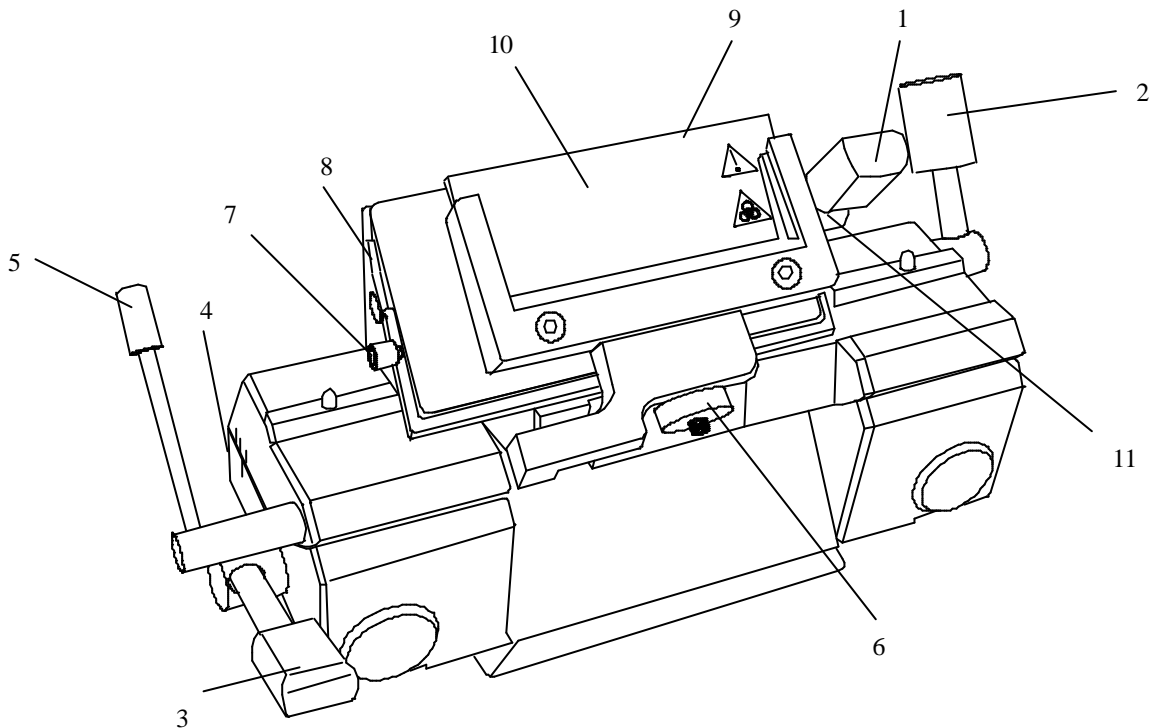

Fig. 24a
?? The blade is inserted into the slot (fig. 24a.9) behind the clamping plate.
When using high profile blades, first loosen the lever (fig. 24a.1) and remove the spacer strip (fig. 24a.8).
- ?? For this, push in the stop bolt (fig. 24a.11) and turn the clamping lever (fig. 24a.1) in a counter clockwise direction over the stop bolt.
- ?? Remove the clamping lever (fig. 24a.1) together with the eccentric bolt.
- ?? Fix the clamping plate with clamping lever (fig. 24a.1) again in the blade carrier in reverse order.
- ?? To insert the blade, now loosen the clamping lever (fig. 24a.1).
- ?? Insert the blade from the left side into the slot behind the clamping plate (fig. 24a.9) as far as possible.
- ?? To section the specimen, put the anti-roll plate (fig. 24a.10) against the blade via the turning lever (fig. 24a.5) in a counter-clockwise direction.
- ?? Tighten the clamping lever (fig. 24a.1). Thus fixing the blade in its position.
- ?? Open the clamping lever for the upper part of the carrier (fig. 24a.2) and move the blade together with the upper part to the left or right side.
- ?? Tighten the clamping levers (fig. 24a.2) to fix this position.
To avoid the danger of injury on the blade during adjustment of specimen, always position the knife guards (fig. 24a.7) over the blade edge.
?? The fine adjustment of the anti-roll plate is carried out via the knurled screw (fig. 24a.6).
- ?? Loosen the clamping lever (fig. 24a.3).
- ?? The clearance angle can be read on the scale (fig. 24a.4) on the left side on the base.
- ?? Bring the clamping lever (fig. 24a.3) into clamping position.